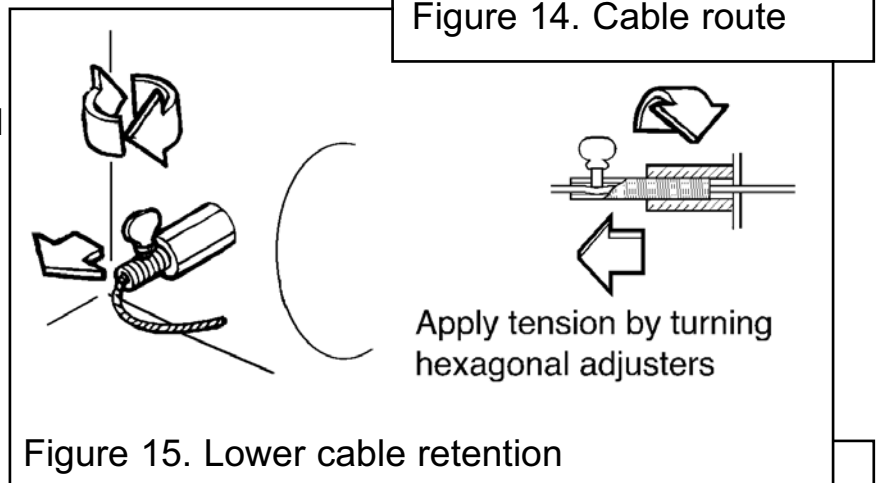

Figure 15. Lower cable retention
9. Pull each cable taut. Push the cable retainers hard up against the back panel. The end of the cable adjuster will pass into the hole. Tighten the screws in the retainers so that they clamp the cables in position. Apply tension to the cables by turning the hexagonal adjusters by hand. (See figure 15).